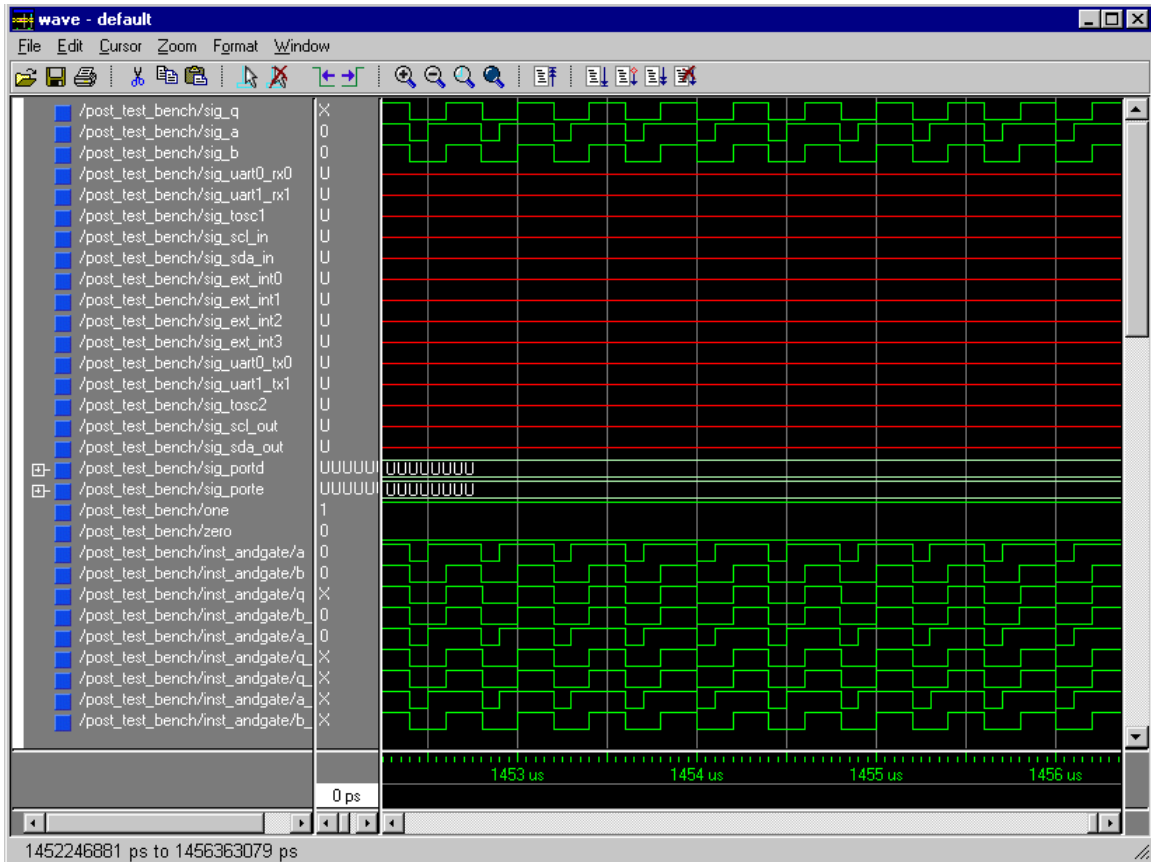

Figure 26 Wave Results
13. Press the **break** button after few seconds to see the results, see **Figure 26**.